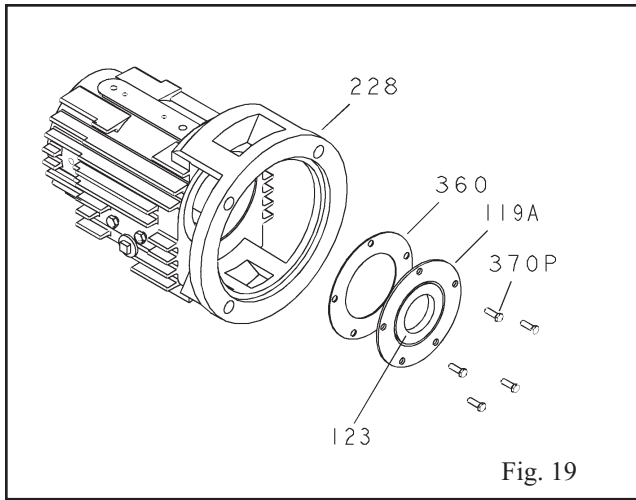
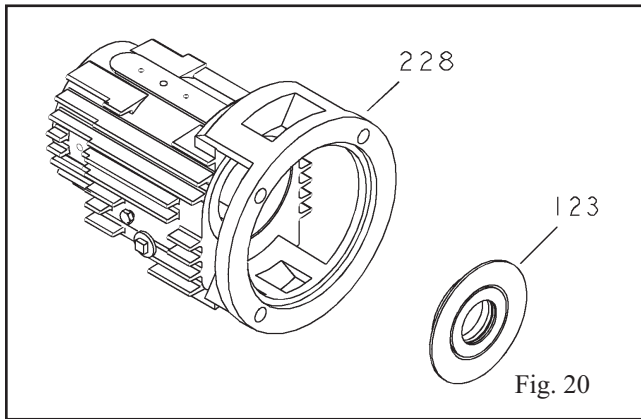

Fig. 19
Fig. 20
10. Loosen and remove radial bearing end cover / bearing frame screws (370P) (Fig. 19). Omit this step on SA pumps. Radial INPRO Oil Seal (123) is pressed in place and sealed with an O-ring (Fig. 20).
11. Remove radial bearing end cover (119A)/ Radial INPRO (123) with gasket (360) or Radial INPRO (123) (SA pump only) from bearing frame (228) by tapping out of fit in frame.